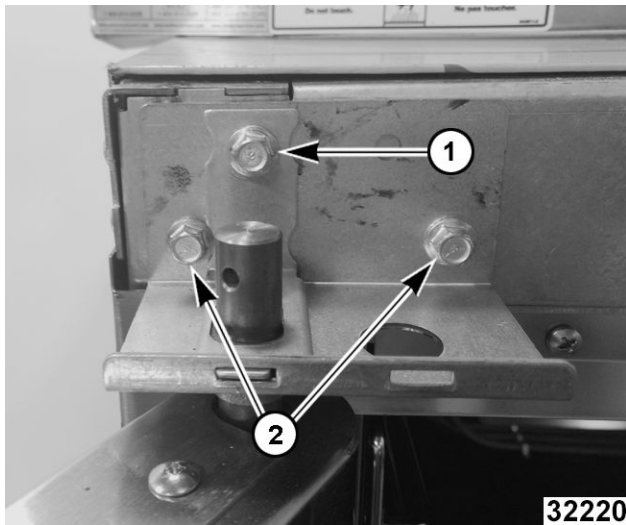

Fig. 55
3. While supporting door, remove hex bolts holding upper bearing retainer (1, Fig. 55) and upper shaft bracket (2, Fig. 55).